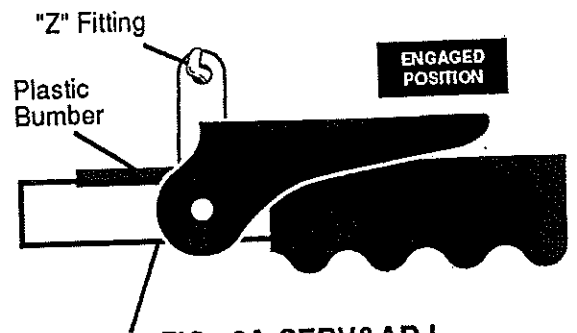

FIG. 2A-SERV&ADJ
### TO ADJUST SINGLE HANDLE CLUTCH CONTROL CABLES (FIG. 2A, 2B & 2C-ADJ)
To check for correct adjustment, move control lever to full engage position (See FIG. 2A-SERV&ADJ).
- Move and hold control lever in engaged position. (See FIG. 2A-SERV&ADJ).